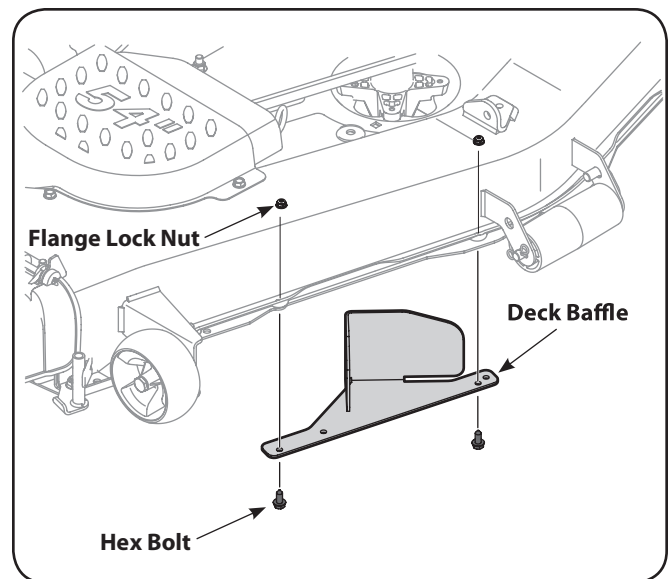

Figure 4-15
2. Install the deck baffle included with the loose parts to the underside of the mowing deck using two 710-04666 hex bolts and 912-3027 flange lock nuts from hardware pack 689-00326, as shown in Figure 4-15.